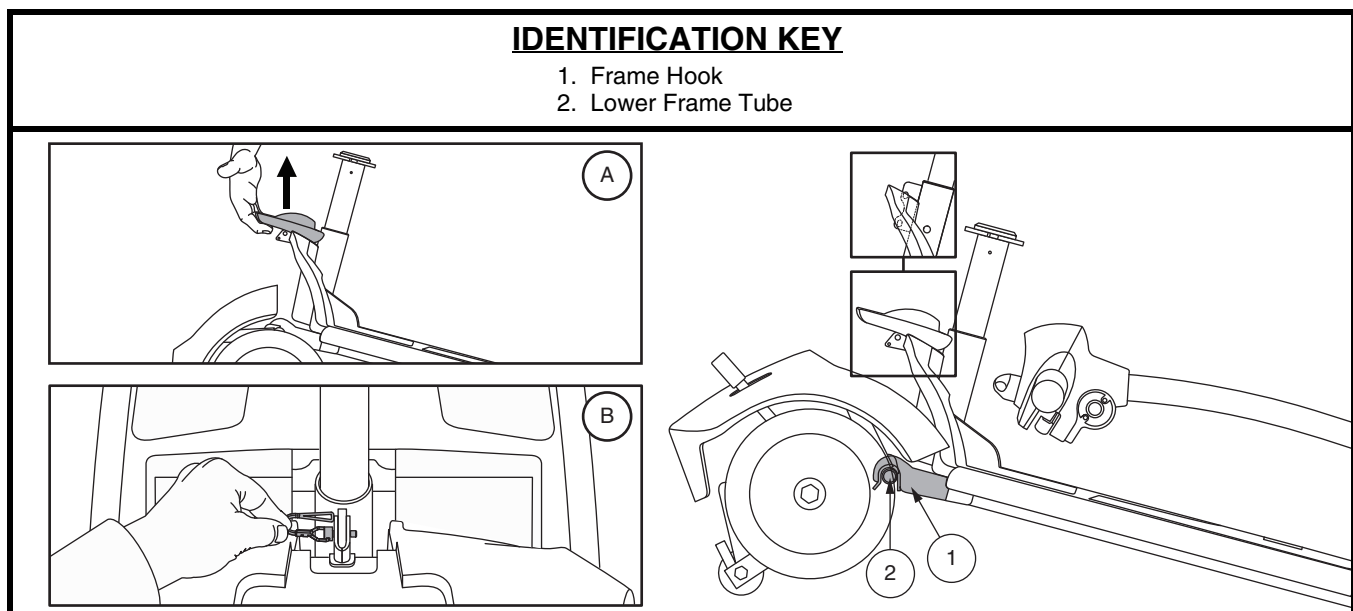

Figure 26. Frame Release Lever (Style A) and Frame Release Lock-up Pin (Style B)
4. Slowly separate the two sections of the Travel Scooter. See figure 26.
NOTE: Before attempting assembly, tilt the rear half of the Travel Scooter slightly back on the anti-tip wheels as shown in figure 26.
1. Use the frame release lever (or the seat post for models 36, 83, and 84 only) to lift the front section as you align the frame hooks of the front section with the lower frame tube of the rear section. See figure 26.
2. Once the frame hooks are over the lower frame tube, lower the front section and pivot the rear section simultaneously. This will engage the frame lock-up automatically for models 40X, 44X, 40E, 44E, 40LX, 44LX, 50LX, 54LX, 53, 53HD, 54, 54HD, 73, and 74. For models 36, 83, and 84, you will also need to reinstall the frame lockup pin to complete the body assembly. See figure 26.